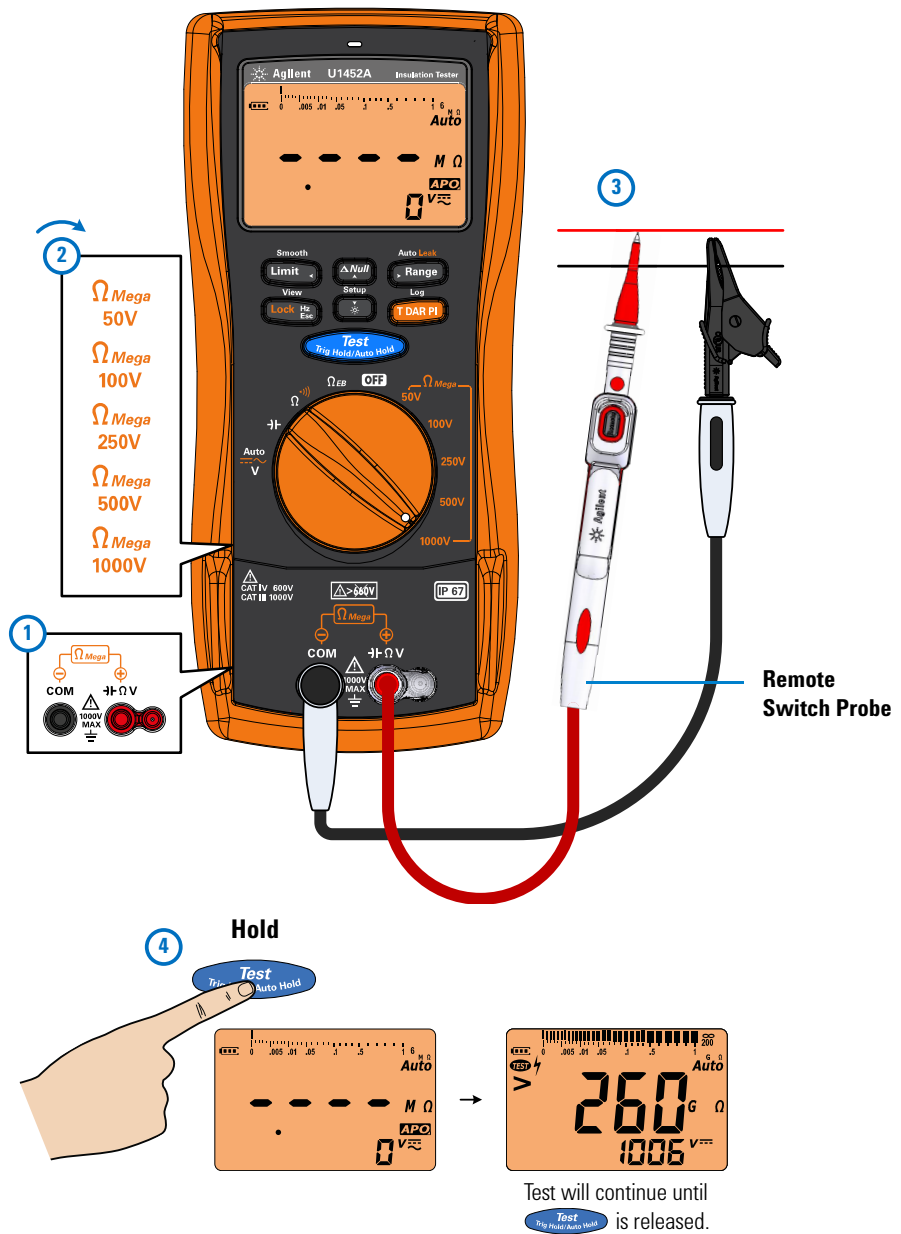

Figure 2-1 Insulation resistance test example
Set up your tester as shown in Figure 2-1. Set the rotary switch to a test voltage value that does not exceed the maximum voltage limitation of the circuit under test. Ensure that the device-under-test (DUT) is de-energized before performing any resistance measurement.
Use the timed test to obtain measurement results with consistent test times – for later comparisons. Set up your tester as shown in Figure 2-1, and follow the steps shown below.
Dielectric Absorption Ratio (DAR) is the ratio of the insulation resistance tested at 60 seconds to the insulation resistance tested at 30 seconds. Set up your tester as shown in **Figure 2-1**, and follow the steps shown below.
Polarization Index (PI) is the ratio of the insulation resistance tested at 10 minutes to the insulation resistance tested at 1 minute. Set up your tester as shown in Figure 2-1, and follow the steps shown below.